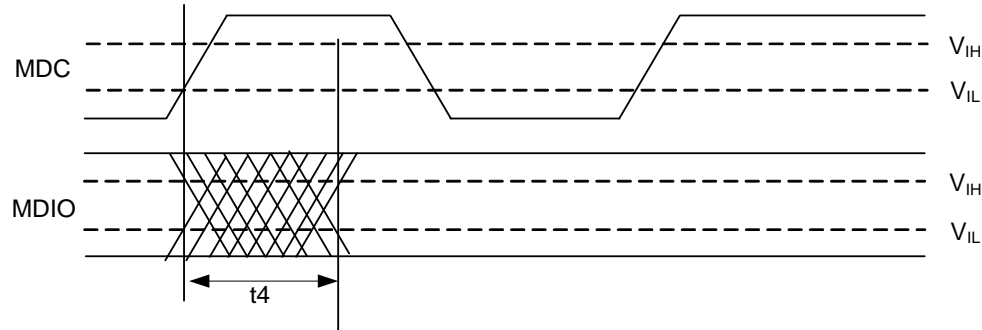

Figure 24. MDIO Sourced by RTL8214FCI-VC (Slave)
- The timing characteristic t_4 (Figure 24) of the Slave (RTL8214FCI-VC) are provided by the RTL8214FCI-VC when the RTL8214FCI-VC sources the MDIO signal (Read command)